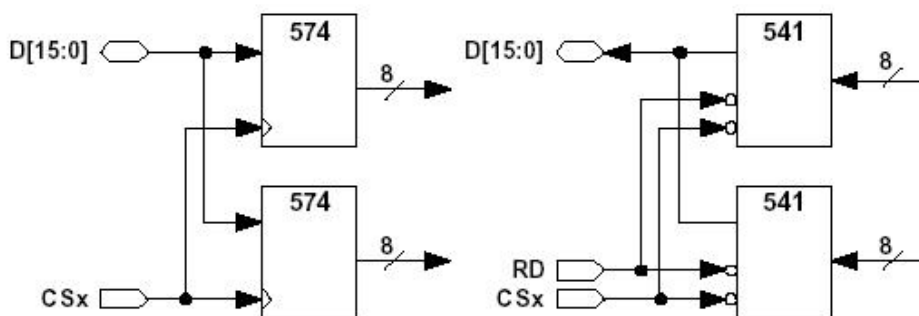

Figure 6. I/O Expansion Examples
Decoded Chip Selects (CS) are available to allow interfacing to additional external devices on the ImageProcessor bus. You can easily add additional GPIOs by using the CS line with an 8-bit latch or buffer, as shown in Figure 6. The processor bus is not 5V tolerant, so 3.3V devices or buffers must be used.